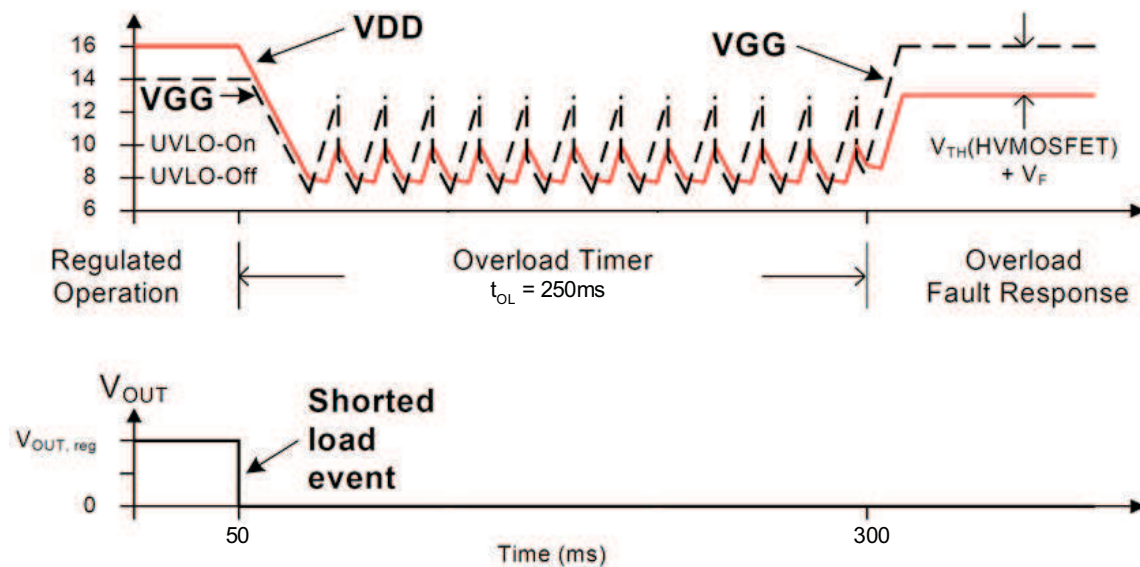

Figure 32. Overload Behavior with a Shorted Output
The UCC28610 reacts with the programmed overload response if the overload lasts longer than t_{OL} (nominally 250 ms). The overload fault responses are either (1) latch-off or (2) shutdown/retry after a retry delay of 750 ms. The overload response is programmed with the MOT pin. The forced DCM feature prevents transformer saturation and limits the average and RMS output currents of the secondary winding of the transformer. Even under short circuit load conditions, the output current of the transformer is limited to the levels that are shown in Equation 16, where N_{PS} is the primary-to-secondary turns ratio. Typical behavior for a shorted load is shown in Figure 32.